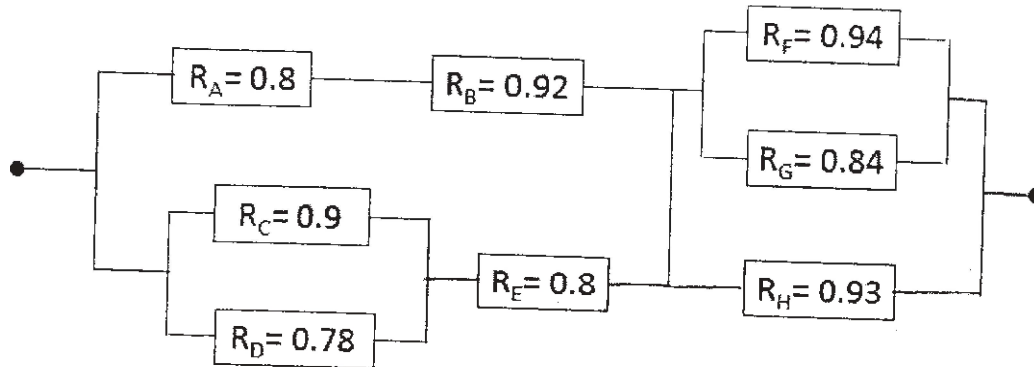

Fig. 2
- b) Calculate the reliability of the system shown in Fig.2. The number in each block shows the reliability of each component. [6]